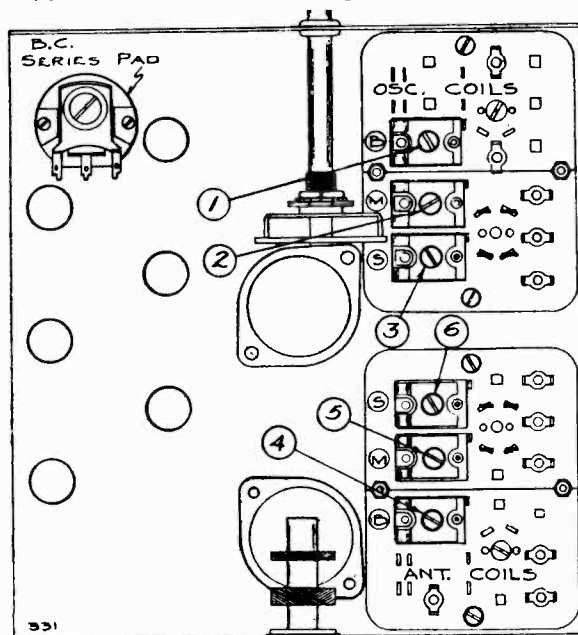

FIG. 3.—BOTTOM VIEW SHOWING TRIMMERS
- Set external oscillator to 1720 K.C. and adjust broadcast oscillator trimmer to resonance (adjustment number 1; see bottom view of coil assembly, Fig. 3.)
- Re-set external oscillator to 600 K.C., and adjust broadcast series pad to resonance by rotating condenser to approximately 600 K.C., rocking it slowly to and fro until by adjusting series pad maximum output is attained. This adjustment is located on the bottom of the chassis directly under the variable gang condenser. (See bottom view of chassis, Fig. 3.)